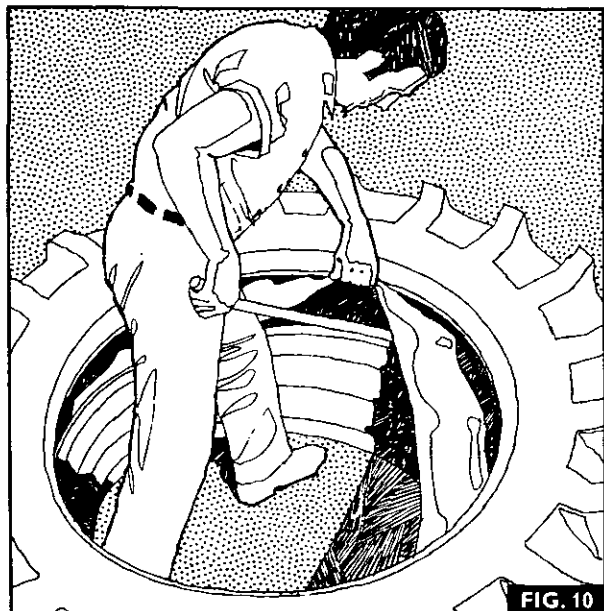

FIG. 10
2. Fig. 10. Refit the tyre to rim, using long tyre levers.